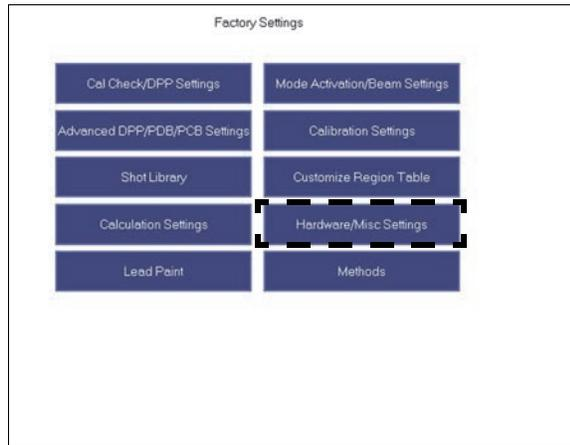

Figure 1-17 The Factory Settings pane
2. On the **Factory Settings** pane, click **Hardware/Misc Settings** (see Figure 1-17 on page 17).